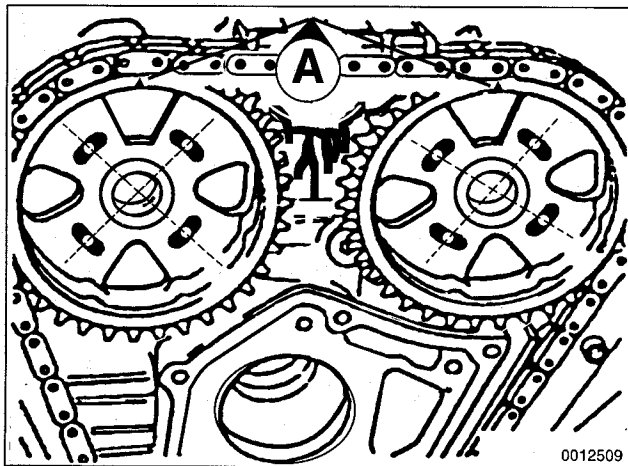

Fig. 9. Camshaft sprockets correctly installed with arrows pointing up and bores centered to tapped holes (M44 engine).
2. Place camshaft sprockets on chain, then place sprockets on camshafts so that arrows on sprockets point up and elongated holes in sprockets are centered to tapped holes in camshafts. See Fig. 9.